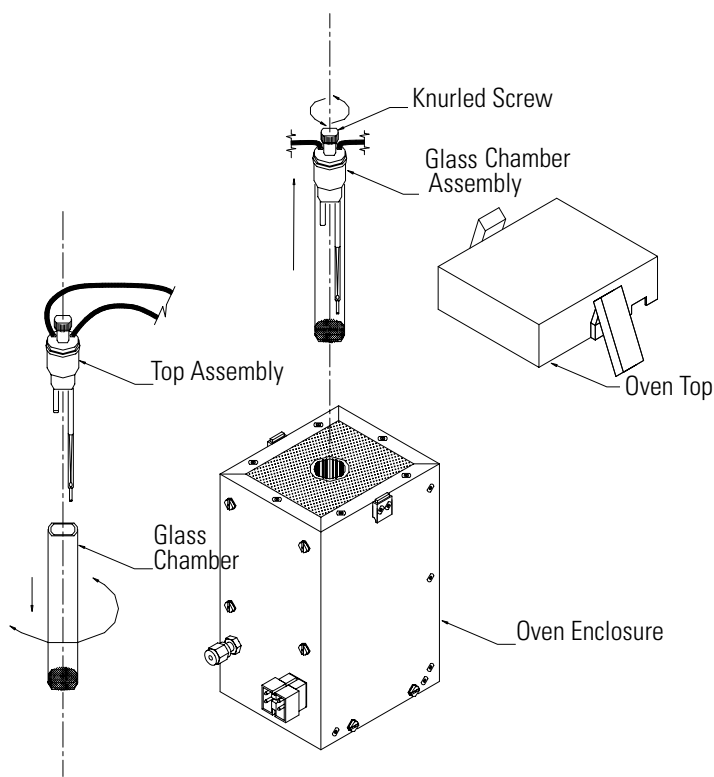

Figure 7-14. Removing the Glass Chamber Assembly
4. Remove the two (2) screws holding the oven to the floor plate and remove the oven.
- b. Remove glass chamber assembly by loosening (not removing) knurled screw, located at the top of the chamber, and gently pulling assembly upward. Completely remove assembly from oven (Figure 7-14).
- c. Separate glass chamber from top assembly by twisting and gently pulling glass away from top (Figure 7-14). Keep glass clean by using Kimwipes or similar material to handle glass.
- e. Attach glass chamber to top assembly by gently pushing together with a slight twisting motion (Figure 7-14).